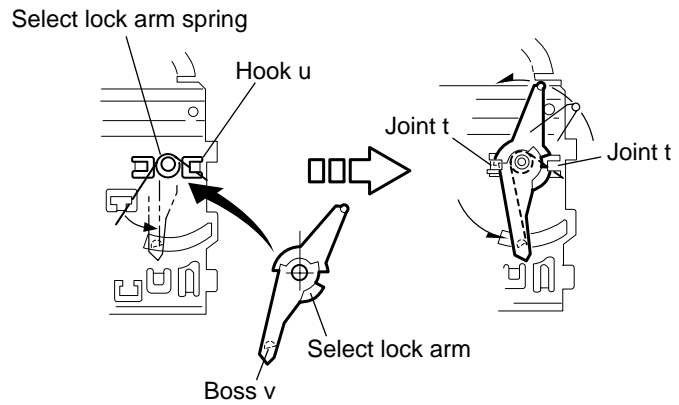

Fig.23
### ■ Reassembling the select arm (L) / select lock arm (See Fig.23 to 25)